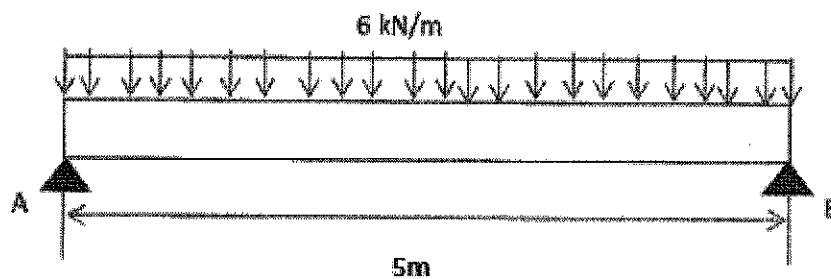

Figure 3(c) /Rajah 3(c.)
- (c) **Figure 3(c)** shows 5m simply supported beam with distributed load of 6kN/m along the beam. Given $EI = 72.917 \text{ kNm}^2$. By using the formula, determine the slope in degree unit at point B is the beam length were **decreased 20%**.